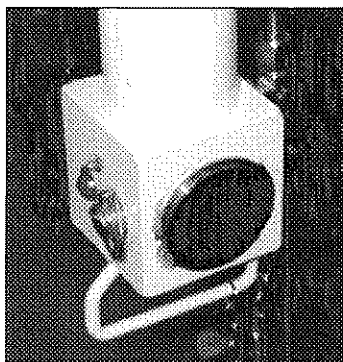

fig. 17
- Supporting the ram, remove the check pin and the locking pin from their positions (fig. 17); when the ram is in the vertical position, a stop prevents it permits from overturning.